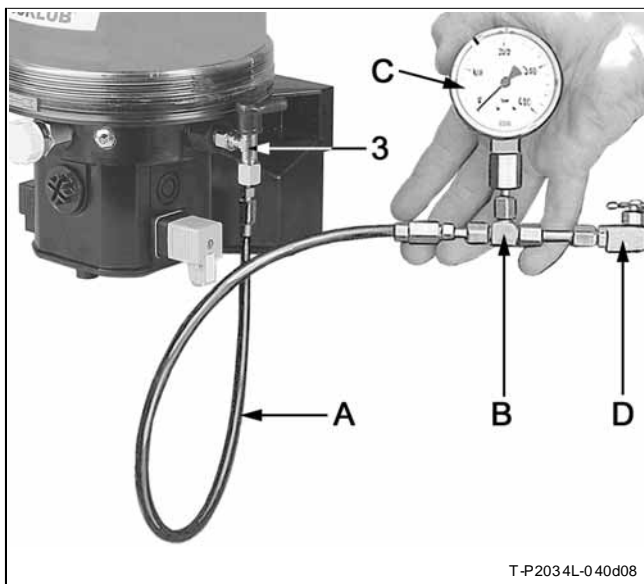

Fig. 9-4 Check the pressure relief valve
- Connect the pressure gauge C (0-600 bar; 0-8708 psi) to the pressure relief valve 3 (see Fig. 9-4).